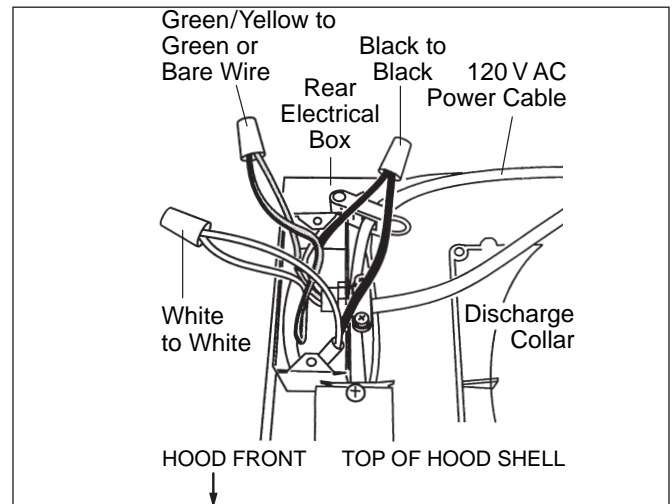

Figure 2-12 Electrical Connections
2. Insert 6" (152) of 120 VAC power cable through the knockout opening. Secure the cable to the electrical box with an appropriate connector.
3. Make electrical connections. Connect black to black, white to white and green/yellow to green or bare wire. (See Figure 2-12)